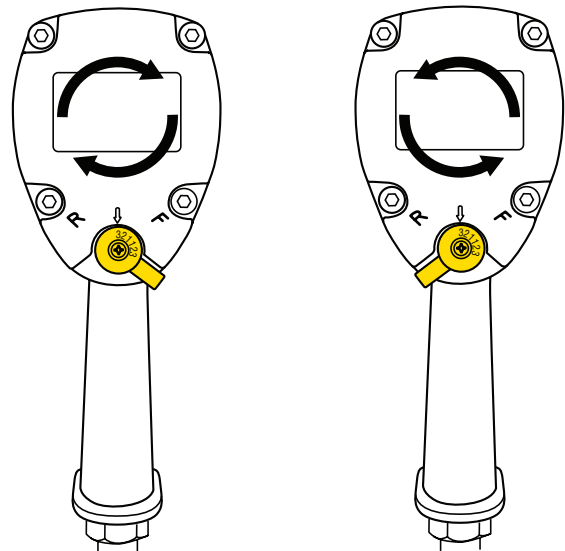

Fig. 6
4. Adjust the lever on the back of the tool indicated in Fig. 6 so the tool is set to the highest speed and direction of rotation.